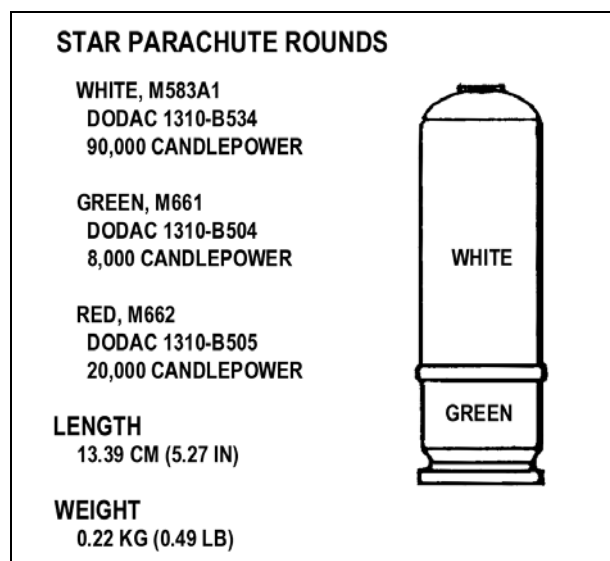

Figure 3-12. Star parachute round.
(3) **Star Parachute Round.** This round is white impact or bar alloy aluminum with black markings (Figure 3-12, page 3-10). It is used for illumination and signals and is lighter and more accurate than comparable handheld signal rounds. The parachute attached to the round deploys upon ejection to lower the candle at 7 feet per second. The candle burns for about 40 seconds. A raised letter on the top of the round denotes the color of the parachute.